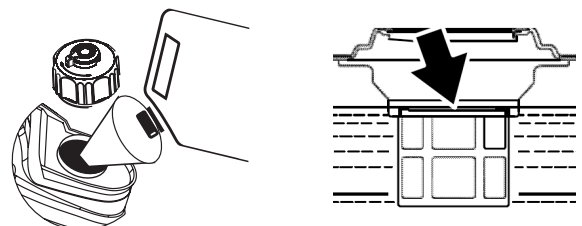

Figure 5: Maximum Gasoline Fill Level
6. Slowly add gasoline into the fuel tank. Be very careful not to overfill the tank. The gasoline level should NOT be higher than the red ring (see *Figure 5*).